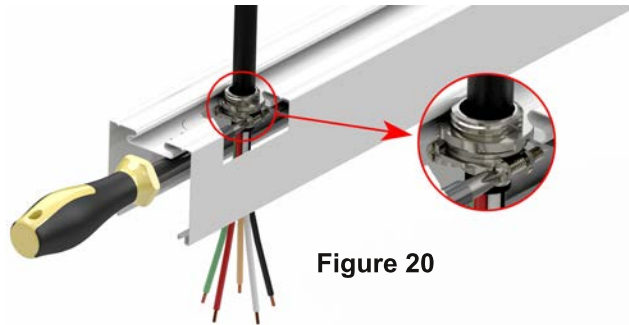

Figure 20
- Position the Clamp Screws, as the Clamp Locknut is tightened, to facilitate the use of a screw driver to tighten them, as shown in Figure 20, after the Fixture Power Cable is in the Clamp.